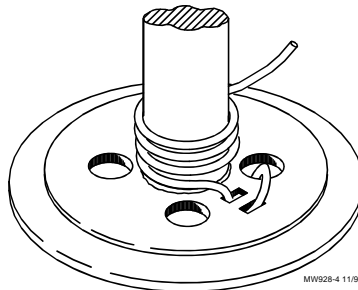

Figure 7. Cable Wrap on Drum
6. Attach one end of the 3/16" [4.8 mm] cable to the winch as shown in **Figure 7**. Unroll the cable along the length of the water line.